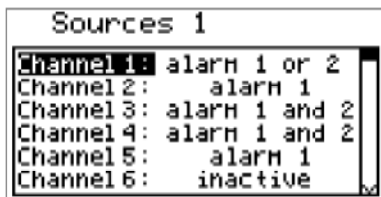

Fig. 7.14. Submenu **"Source"** in menu **"Outputs settings"**.
- "Source"** - brings up a submenu with alarm sources settings (Fig. 7.14). The following options are available for each channel: